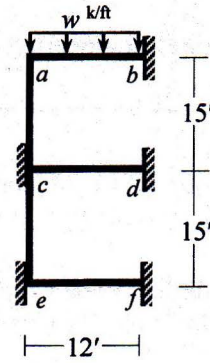

Fig. 10
10. Frame structure *abcdef* shown in **Fig. 10** is subjected to a dynamic load, $w = 10 \cos(\pi t/6)$ (k/ft). Use *Constant Average Acceleration (CAA)* Method to calculate the rotation of joint *a* at time $t = 0.10$ sec [Given: $EI = 10^4$ k-ft², $\mu = 0.005$ k-sec²/ft², Damping ratio of the system = 8%].